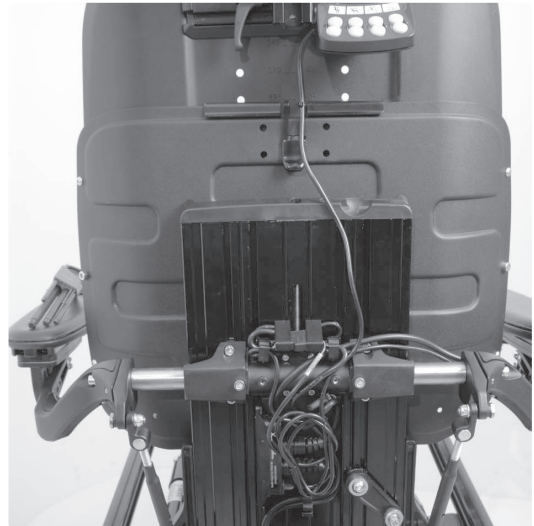

Fig. 4. Cable position beneath the cover.
9. Pull the cabling in a soft curve, remembering that the bio-mechanical backrest causes position changes between the cable's securing points. Coil the excess cable and secure it with a cable tie, fig. 4.